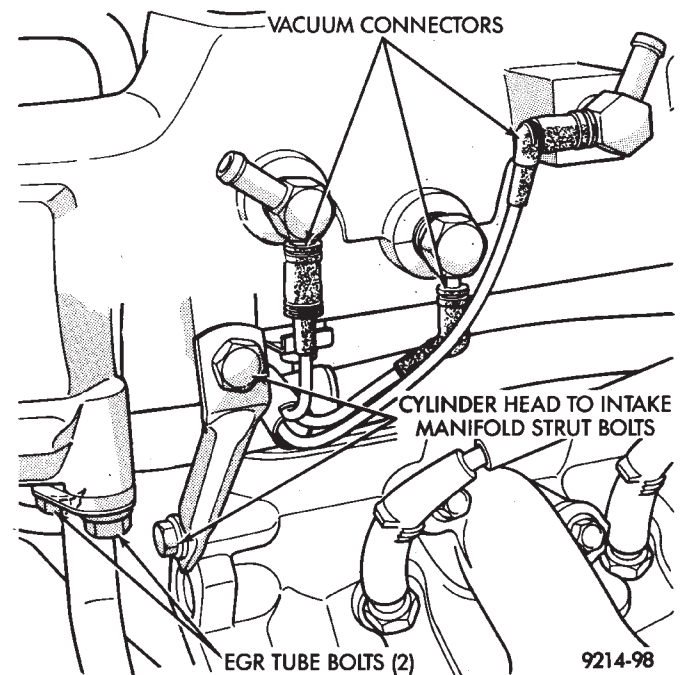

Fig. 11 Vacuum Hose Connections
(19) Check the Vacuum Hose Harness connections at the Intake Plenum (Fig. 11).